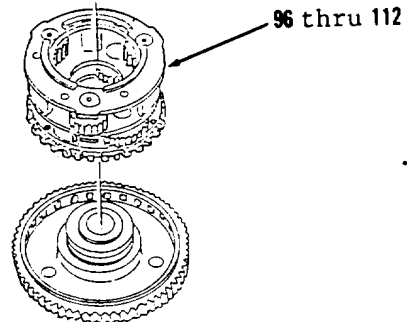

Figure 14-67.
49. Remove items 96 thru 112 as an assembly (Figure 14-67).